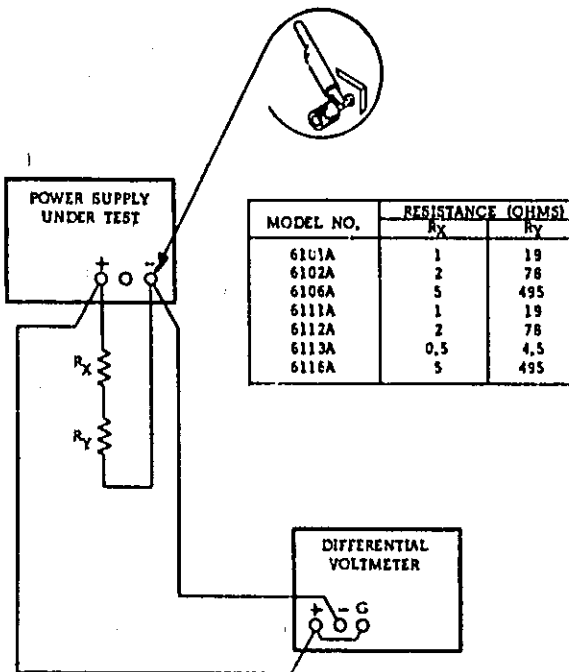

Figure 5-5. Load Regulation, Test Setup
- a. Connect test setup as shown in Figure 5-5.
- c. Connect test setup shown in Figure 5-5.